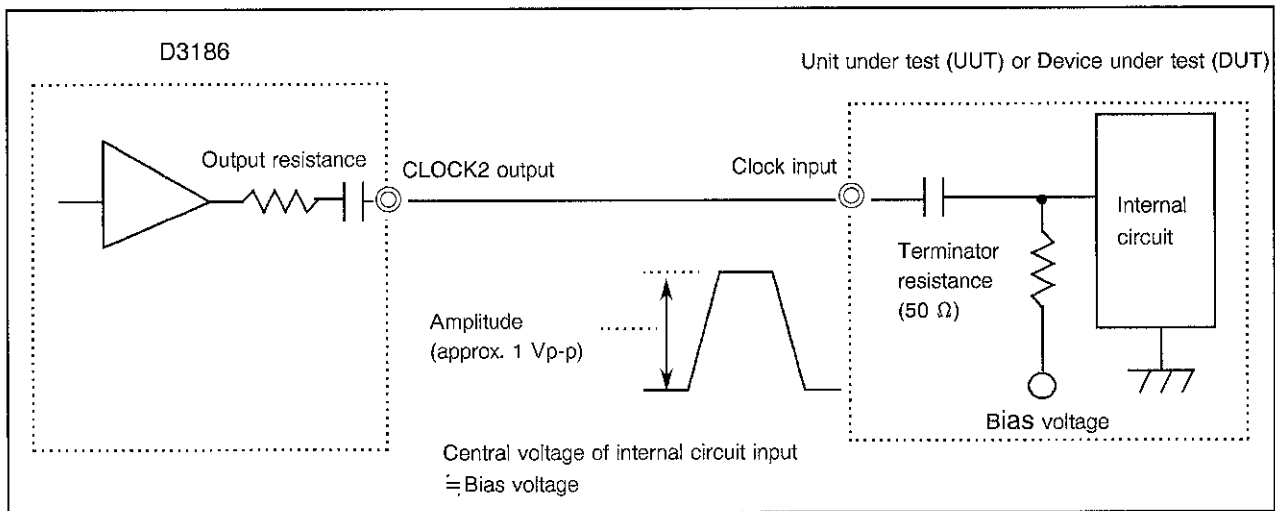

Figure 4-7 CLOCK2 Output, AC Connection Terminator
- (b) To use fixed UUT/DUT clock input amplitude (see Figure 4-7.):
Figure 4-7 shows an example of connecting the signal lines.